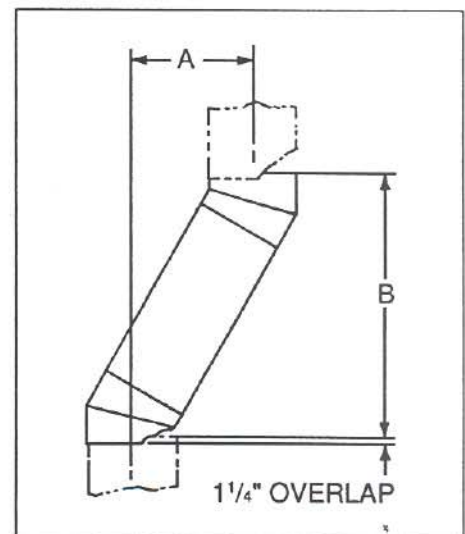

Figure 8
To clear any overhead obstructions, the chimney may be offset using a 15° Offset/Return, Catalog Number SL315, or 30° Offset/Return, Catalog Number SL330. Figure 8 and Table 1 enable selection of the appropriate chimney components when using Offsets and Returns.
1. Determine amount of offset required to extend the chimney through a wall or around an obstacle. See Figure 8, dimension "A".